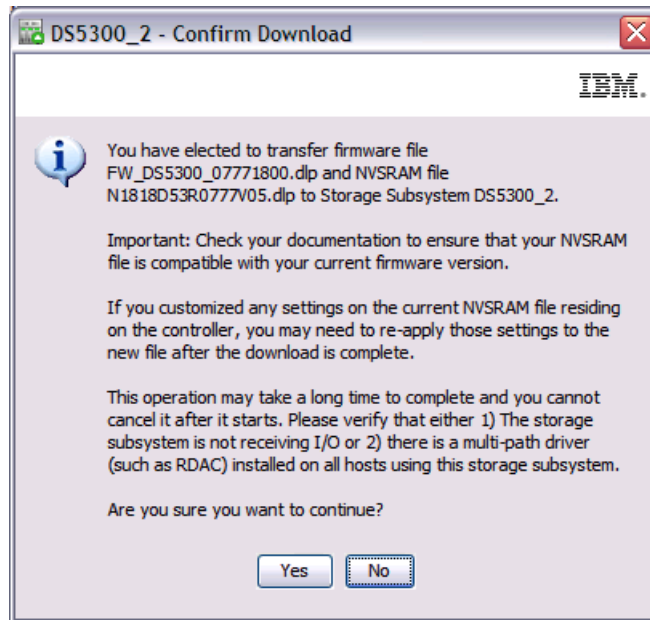

Figure 5-8 Firmware Download confirmation window
4. Then click **Transfer...** to continue. You will see the window shown in Figure 5-8 on page 295.